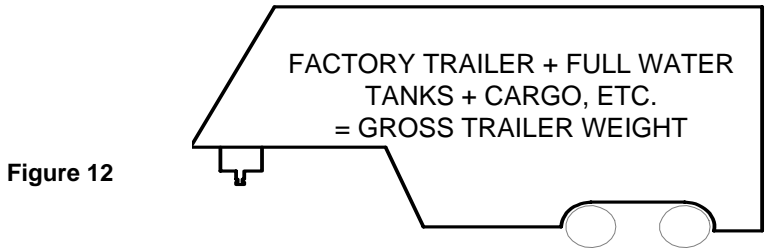

Figure 12
- Towing vehicle must have a manufacturer's rated towing capacity equal to or greater than the gross trailer weight (dry weight of the trailer plus payload of the trailer). (Figure 12)
Gross Trailer Weight (Figure 12): _____